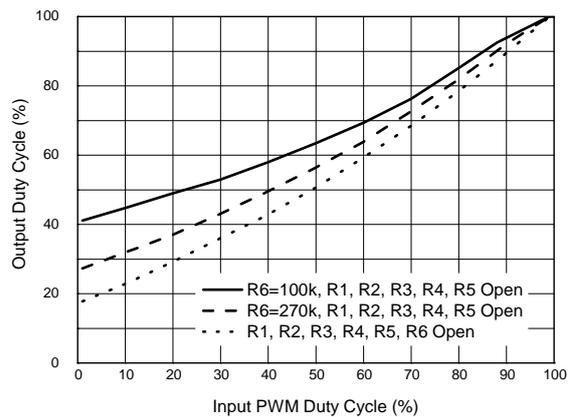

Figure 13
3. Adding R6 can decrease K (see Figure 13).